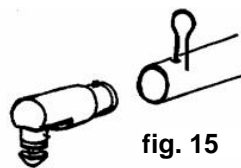

fig. 15
- Pull the Locking Device out of the Outlet Part and turning lightly pull-out the Whipping Pipe of the Outlet Part. (fig. 15)
- With the Locking Device, push in the Locking Bolt and with light turns, pull away the Outlet Part. (fig. 15)